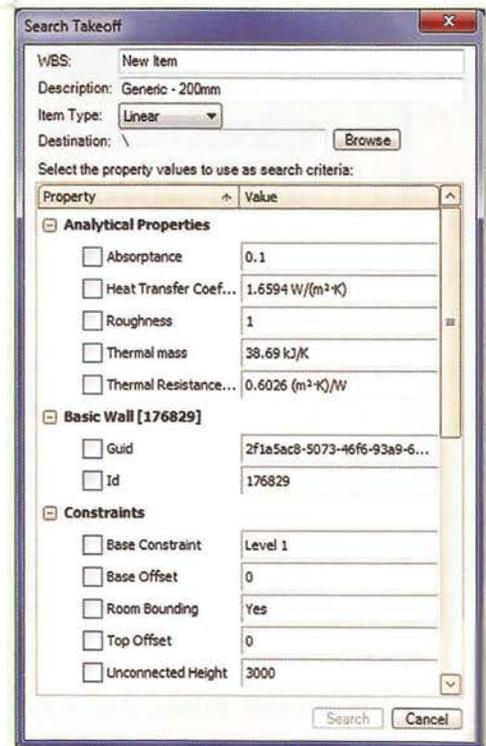

Fig 17: Search Takeoff Tool
4. On the canvas, select the object you want to search for in the project. You can also perform a search takeoff by clicking Takeoff menu » Search, after you select an object on the canvas (Figure 17).